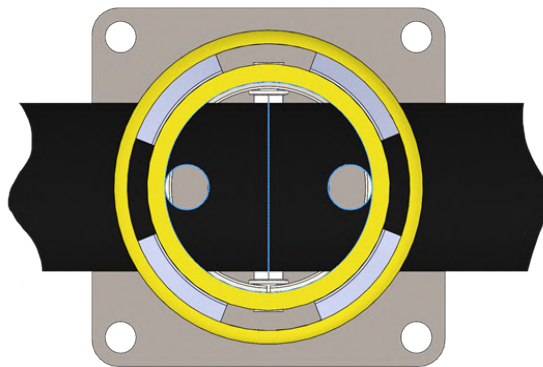

Figure 5. Arrangement of section elements in the intermediate post.
2. Insert the section elements into the intermediate post with the sides with 20 mm diameter holes, as shown in fig. 5.